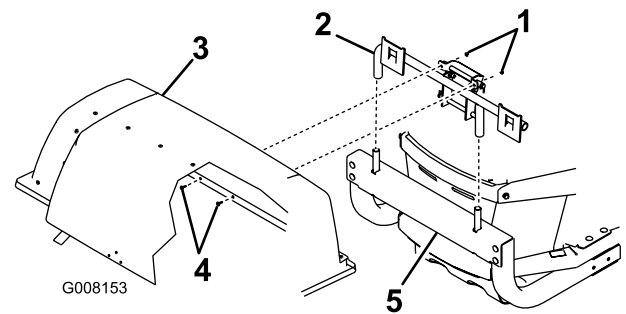

Figure 6
1. Install the bagger mount assembly (item 2) onto to the hood assembly (item 3) using two screws (1/4 x 3/4 inch) and two lock nuts (1/4 inch) as shown in Figure 6.